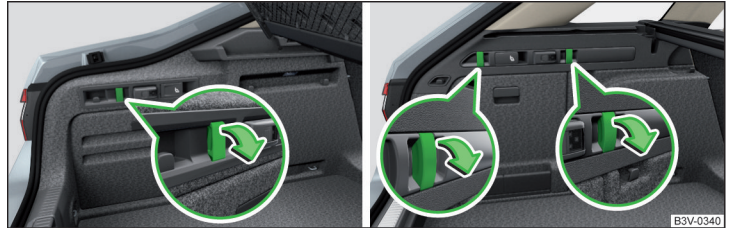

Fig. 143 Fold down the hook: Version 1/version 2
► To use it, pull down the hook in the direction of the arrow » Fig. 143.